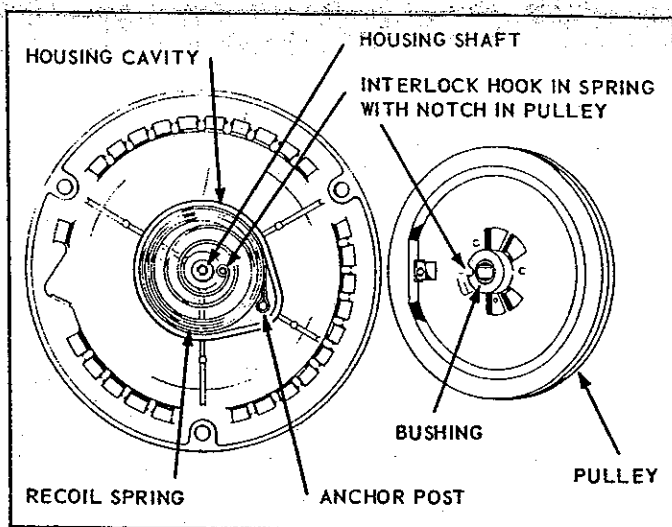

FIG. 6
Prevent recoil spring from escaping from housing by carefully lifting pulley about 1/2 inch and then detaching inside spring hook from pulley, with a screw driver. Note: If spring should escape, it can easily be replaced into cover by coiling in the turns. See Fig. 6, for proper direction of spring coiling. If it is necessary to remove spring, start with the inside loop and carefully pull out one loop at a time while holding back rest of turns. When replacing spring, note the position of spring hooks in Fig. 6. Engine rotation is clockwise, viewed from starter end.
**E. RECOIL SPRING REPLACEMENT, Fig. 6**
Spring holders furnished with replacement springs simplify the assembly procedure. Place *recoil spring* in proper position as shown in Fig. 6, with the outside loop hooked around the *anchor post*. Then press spring into *housing cavity* thus releasing the spring holder. A few drops of SAE 20 or 30 oil should be applied to spring and light grease on housing shaft.
**F. ASSEMBLY of PULLEY, Fig. 6**